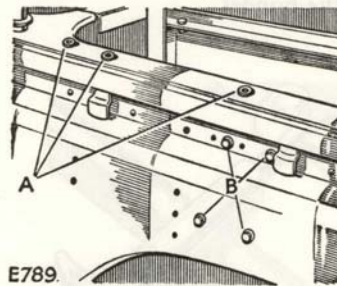

Fig. 125 Holes for angle framework and aerial bracket
- (10) Remove the six nuts and bolts or grommets from the holes in the side cappings of the vehicle, adjacent to the table top, for the slotted angle framework. Fig. 125.
- (11) Fit the slotted angle framework. Secure the table top earth braid by the rear bolt of the forward stay. The braid locates on the top of a shake-proof washer. Ensure that the earth connections are clean and tight.
- (12) Remove the four nuts and bolts or grommets from the holes (Fig. 125 (B)) in the two side plates for the aerial mounting bracket. Left-hand side for one HF set.
- (13) Fit the aerial mounting bracket/s.
- (14) Locate the aerial base mounting in the boss on the bracket and secure by the captive screw. Use a tommy bar to tighten the screw.